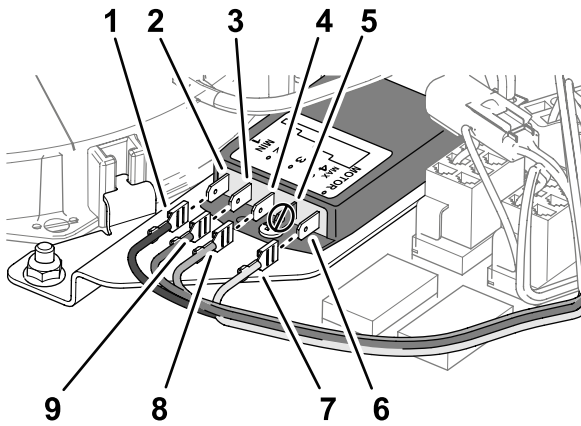

Figure 8
2. Connect the socket terminals of the kit wire harness to the blade terminals of the fan-speed controller (Figure 8) as shown in the following table: